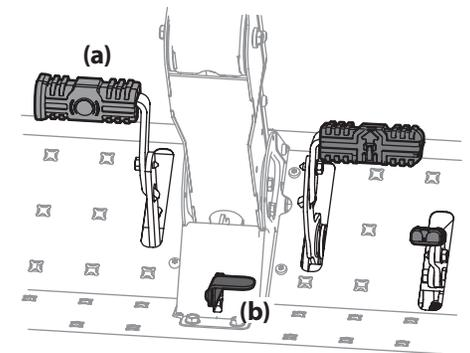

Figure 3-2
- Engage the parking brake by pressing forward on the brake pedal (a), then press down on the parking brake/cruise control lever (b) and then release the brake pedal (a). Refer to Figure 3-2.